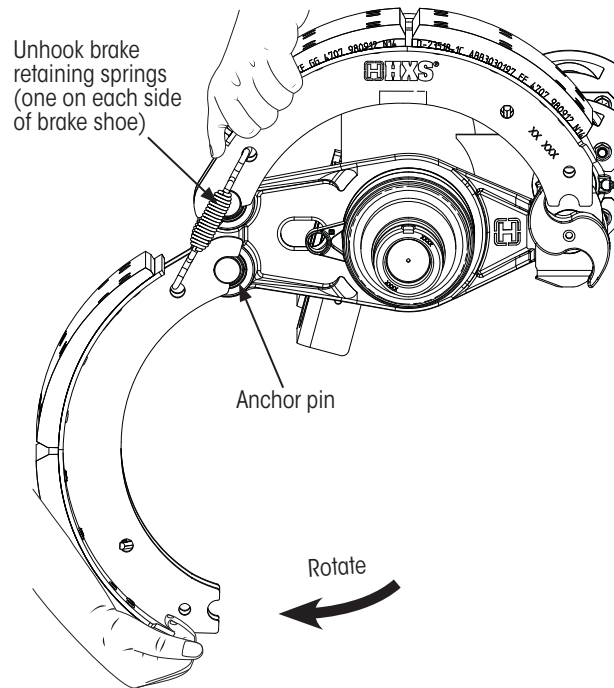

Figure 4: Removing brake retaining spring
4. **Rotate** the lower brake shoe, as shown in Figure 4, so it pivots on the anchor pin.
5. **Unhook** the two brake retaining springs (Figure 4).